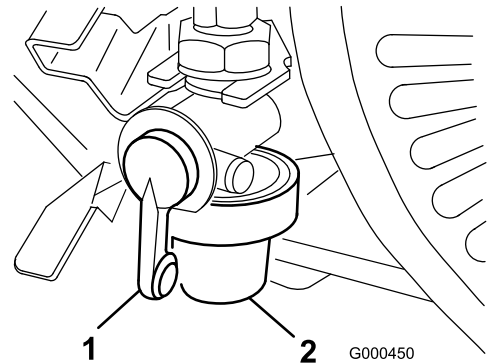

Figure 27
- Close the fuel shut off valve and unscrew the bowl from the filter body (Figure 27).